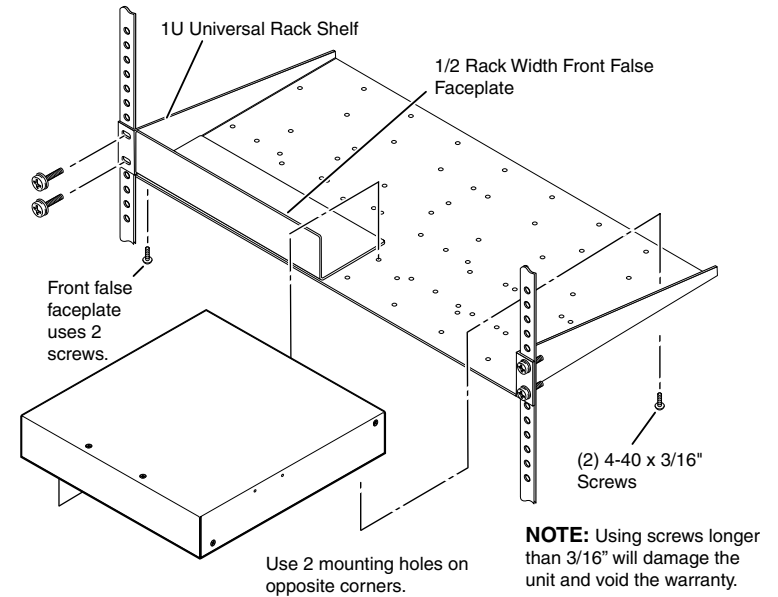

Figure 2-1 — Mounting the unit on a standard rack shelf
The following Underwriters Laboratories (UL) guidelines pertain to the installation of a FOX 500 transmitter or receiver into a rack (figure 2-1).
- RSU 129 9.5" 1U universal rack shelf (part #60-190-01) (figure 2-1)